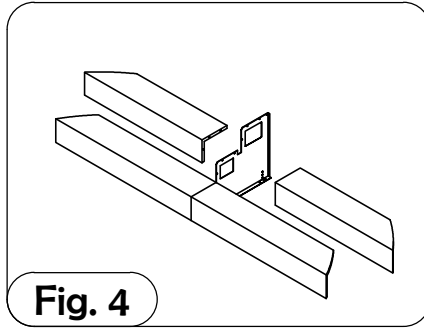

Fig. 4
4. Bolt left and right center step together and through stair brace. Bolt center stair to bottom stair (Fig. 4).